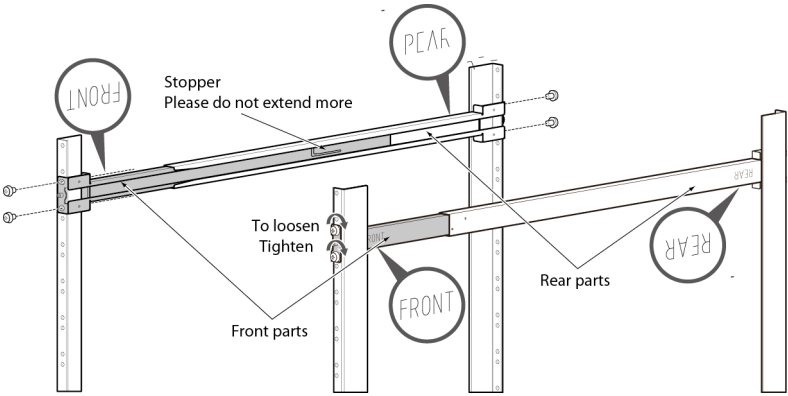

Figure 8. Attach Outer Rails to Rack Post
- Check the direction prior to installation: see “FRONT” and “REAR” indicated on the rails, as shown in Figure 8 on page 27.